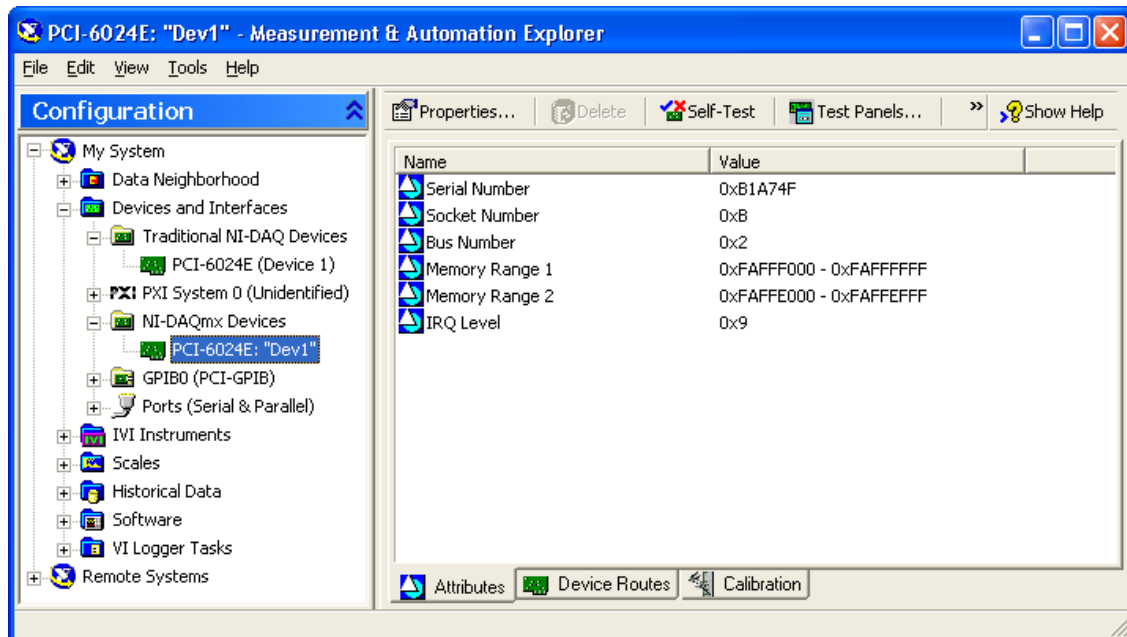

Figure 10.3
2. Expand the **Devices and Interfaces** section to view the installed National Instruments devices. Figure 10.3 shows the PCI-6024E and a PCI-GPIB device.